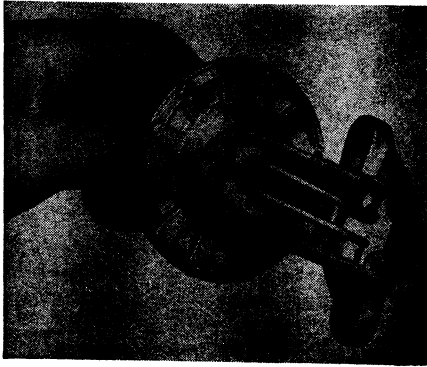

Fig. 9 Series B. Links placed in pump body
3. Install the assembly, Fig. 9, in the pump body, pushing the pull rod up through the hole provided for it. Be sure that the two links will swing to one side toward the rocker arm pin hole. This is necessary so that the rocker arm pin will pass through the holes at the ends of the links.